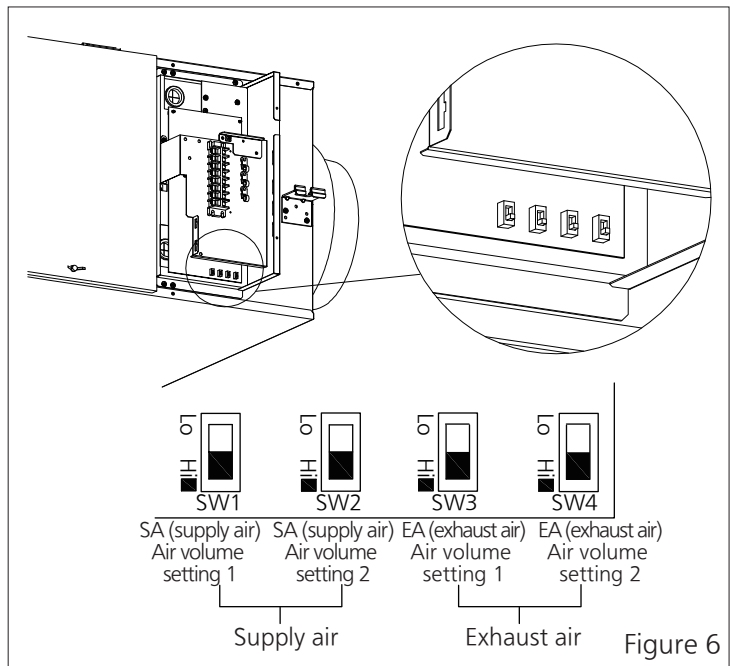

Figure 6
⑦Set the ventilation air volume (Figure 6).
According to the performance (Table 1) of the specific energy recovery ventilator model, select a ventilation air volume suitable for the size of the property by sliding the switch (Figure 6) (Table 2). For the FV-1HZY1 and FV-2KZY1 models, adjust the ventilation air volume of only the main unit.